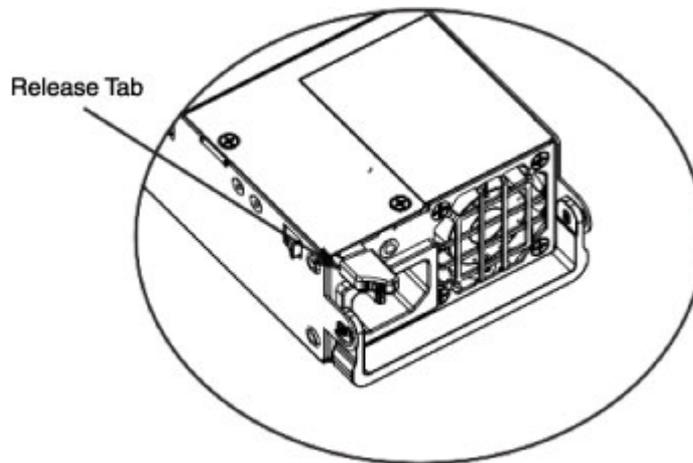

Figure 5-2 Power Supply Release Tab
2. Push the release tab (on the back of the power supply) as illustrated in Figure 5-2.